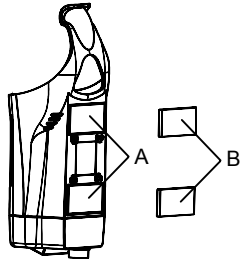

Figure 2 – Mounting with Velcro Strips
Mounting with Velcro Adhesive Strips (see Figure 2)
3. Remove the protection film from the adhesive side of two of the available Velcro strips and stick them on the cradle surface, see Figure 2, A;
4. Remove the protection film from the adhesive side of the two remaining Velcro strips and stick them on the vehicle surface (smooth and clean for better adhesion), see Figure 2, B;